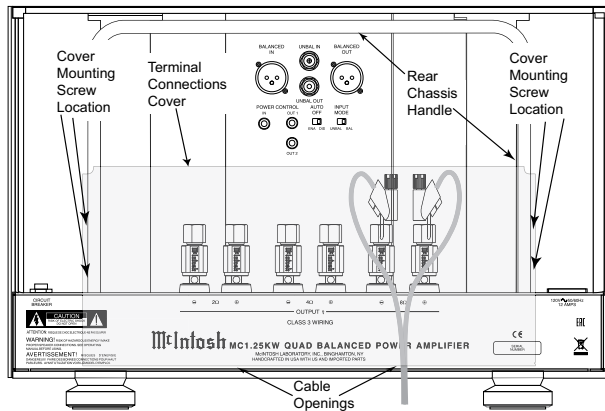

Figure 5 (Inside USA and Canada)
5. Locate the Terminal Connections Cover from the inside of the MC1.25KW shipping carton. Insert the just prepared Loudspeaker hookup cables thru the cover opening on the right side. Refer to figure 5.
Note: The illustration in figure 5 is connections for 8Ω (ohms) Loudspeakers.
- Attach the Terminal Connections Cover to the MC1.25KW Rear Panel with the previously removed Screws. Refer to figure 5.